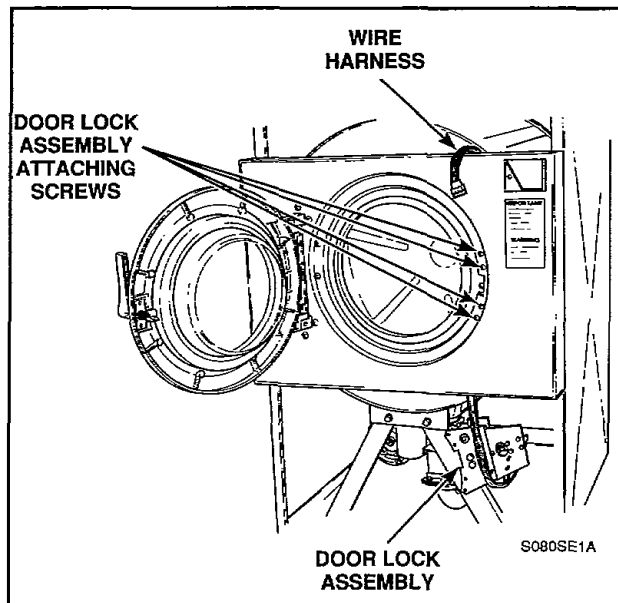

Figure 22
- h. While holding wire harness, open loading door and remove the four screws holding door lock assembly bracket to front panel, *Figure 22*.
i. Lower complete door lock assembly (by use of wire harness) and remove assembly through lower front panel opening, *Figure 22*.
- i. Lower complete door lock assembly (by use of wire harness) and remove assembly through lower front panel opening, *Figure 22*.